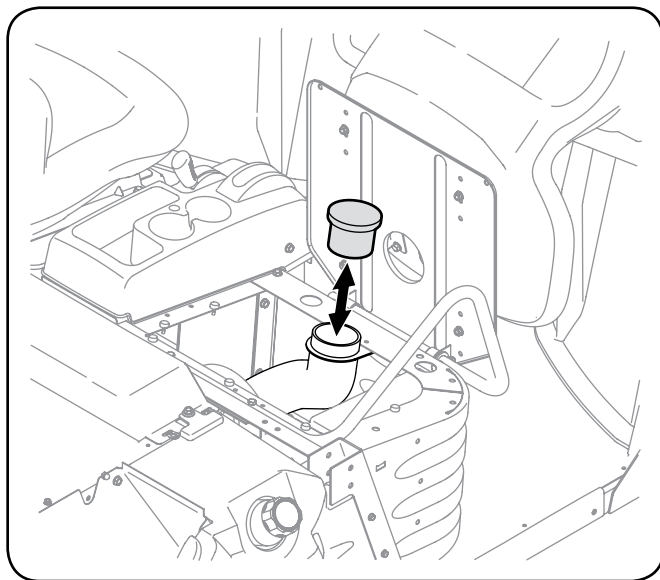

Figure 5-12
2. Pull the filter out of the CVT inlet tube, shown in Figure 5-12, and wash with soapy water.